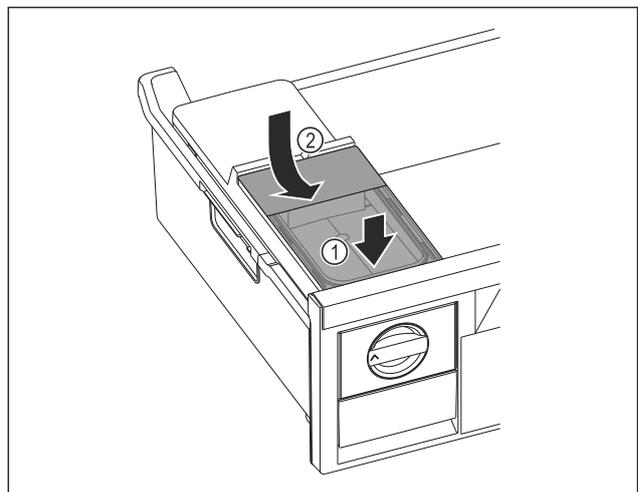

Fig. 104
- ▶ Position the water tank at the front. Fig. 104 (1)
- ▶ Lower the water tank at the rear. Fig. 104 (2)